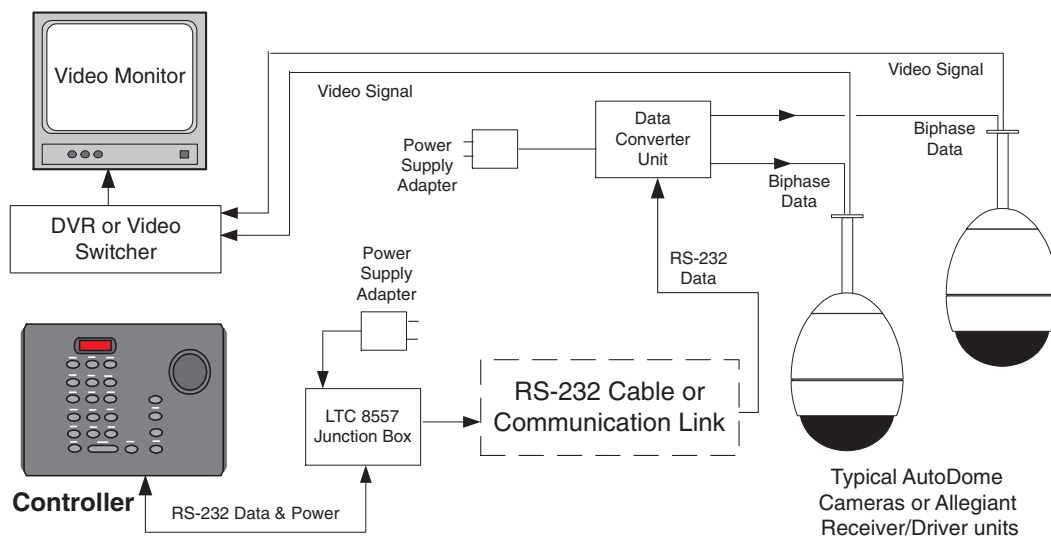

Figure 6 Typical Installation Using RS-232 Communication Link to Biphase Camera Site
4.4 Installation Using an RS-232 Data Transmission Link to a Biphase Camera Site (See Figure 6)